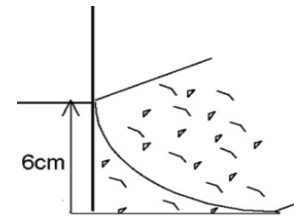

Fig. 4
6. Layer of masonry sand on the inside of the pool (Fig. 4)